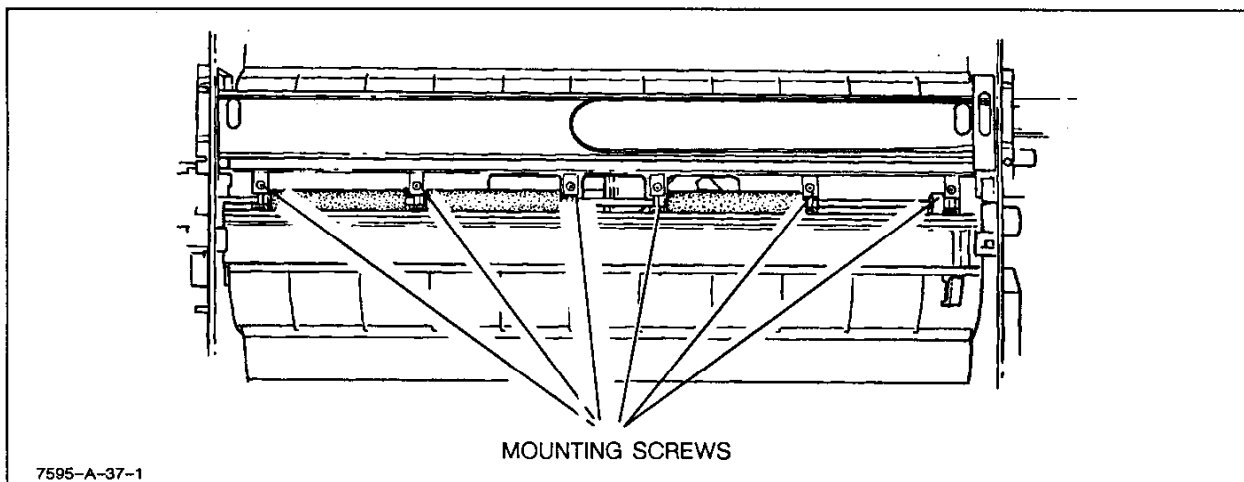

Figure 6-36. Grit Wheel Removal
- m. Remove the grit wheel mounting screws (Torx #15), and starting from right to left, lift the grit wheel out of the plotter. See Figure 6-36.